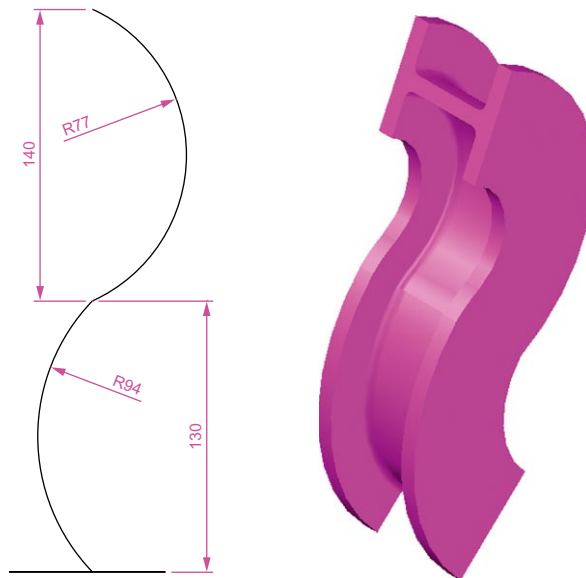

Fig. 12.38 Example – Sweep
### Example – Sweep (Fig. 12.38)
2. Change to the **3D Navigation/Front** view, **Zoom** to **1** and construct a pline as shown in Fig. 12.38 as a path central to the outline.
The result is shown in Fig. 12.38.